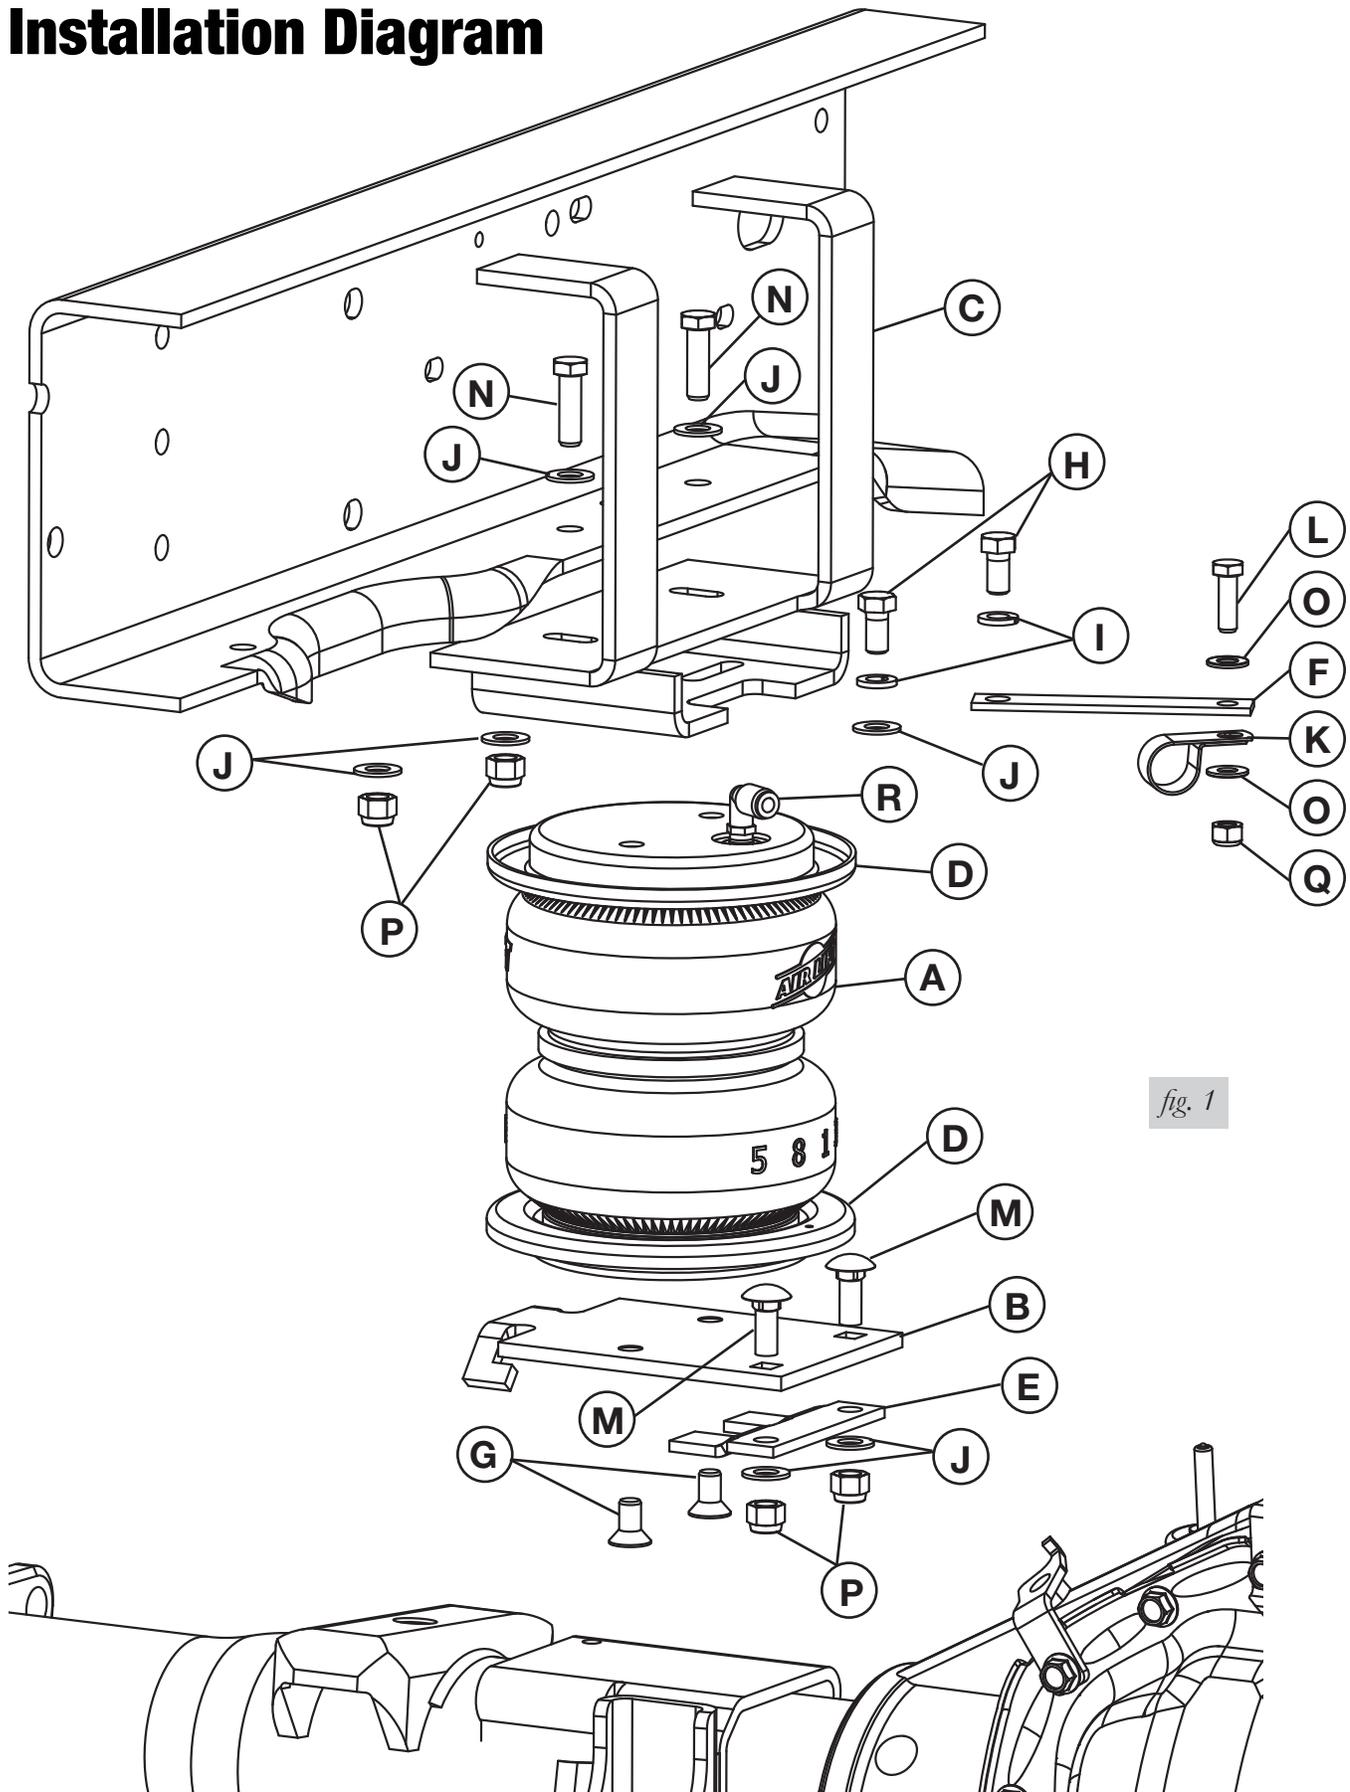
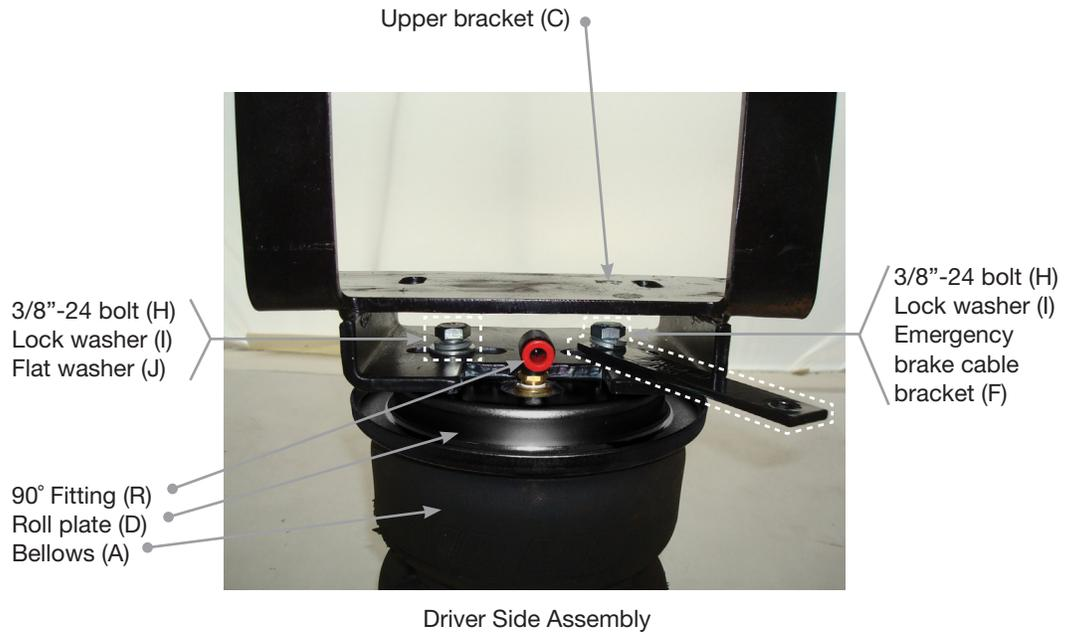

fig. 1
fig. 2
1. Set the roll plates (D) on both sides of the bellows (A). The radius (rounded edge) of the roll plate will be towards the air spring, so both ends are seated in both roll plates (Fig. 1).
2. Install the 90° swivel elbow fitting (R) to the top of the bellows (A). Tighten finger tight plus 1 and a 1/2 turns. Be careful to only tighten on the hex nut. Do not over tighten.
3. Driver Side: install the upper bracket to the bellows assembly using two 3/8" bolts (H), lock washers (I), with one flat washers (J) on the rear bolt, and the emergency brake cable bracket (F) on the forward bolt (Fig. 2). Leave bolts loose at this time.
4. Passenger Side: install the upper bracket to the bellows assembly using two 3/8" bolts (H), lock washers (I), flat washers (J). Leave the bolts loose at this time.